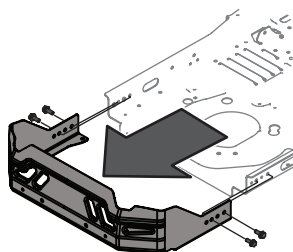

Figure 1
1. Remove bumper assembly. See Figure 1.